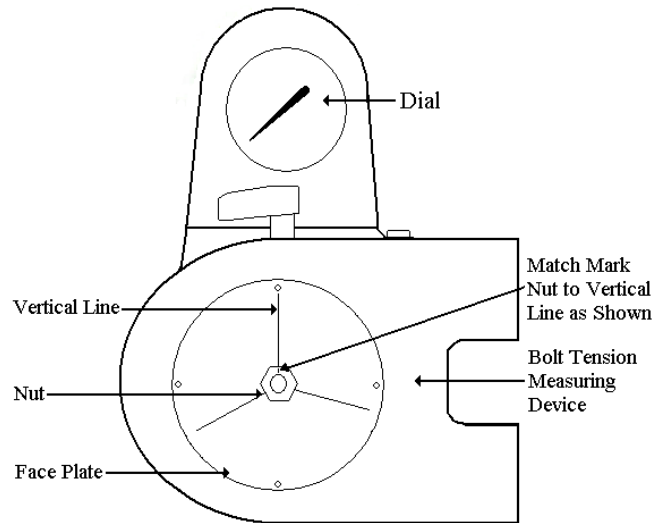

Figure 4
- E. Match mark the nut to the vertical line marked on the face plate in 3.1.A as shown below in figure 4. (It may facilitate testing if the wrench socket is also match marked to the vertical line on the face plate.)